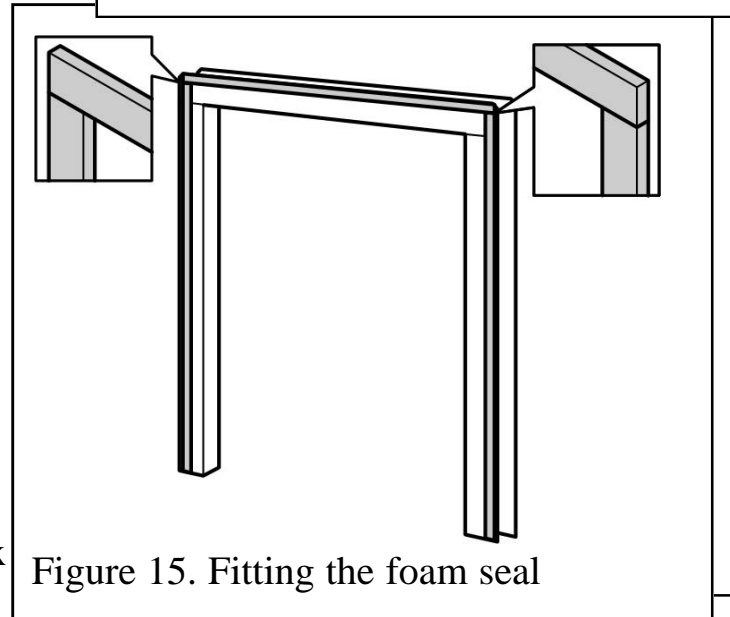

Figure 15. Fitting the foam seal
11. There is a length of self adhesive foam seal supplied with the fire. This will need to be fitted to the outer rear edges of the side and top pieces of the spacer frame. Fit it to the flanges that do not have holes. The holes must be placed against the rear of the fire. Ensure that there is no gap between the foam seals where they meet at the top flange (See figure 15).